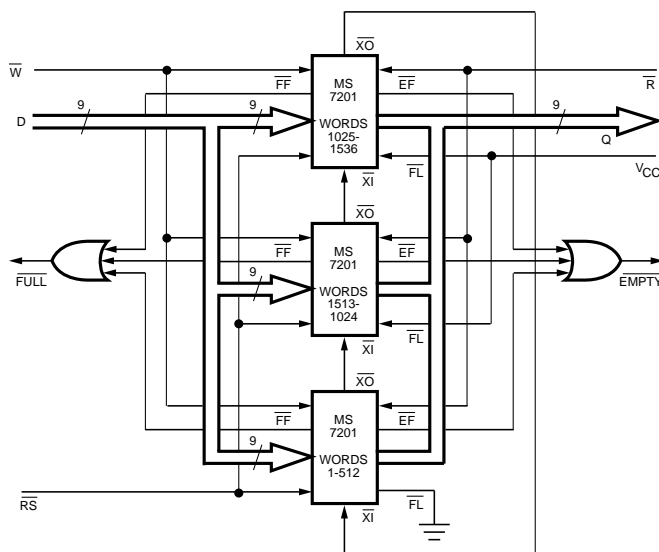

Figure 5. Diagram of a 1536 x 9 FIFO in Depth Expansion Mode
3. The EXPANSION OUT (\overline{XO}) pin of each device must be connected to the EXPANSION IN (\overline{XI}) pin of the next device as shown in Figure 5.